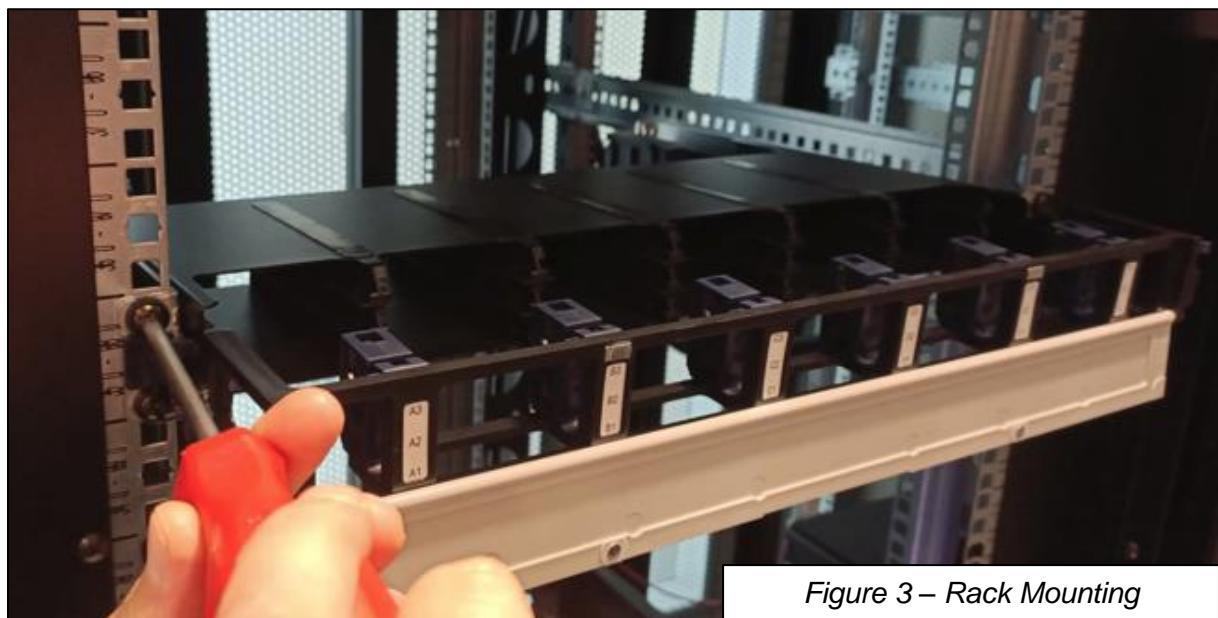

Figure 3 – Rack Mounting
Step 1: Identify the position on the rack where the panel will be installed and partially install screws to rest the mounting brackets on Figure 3.